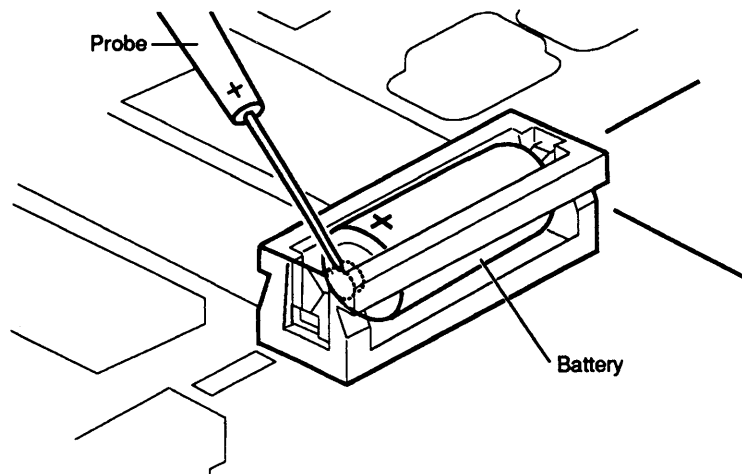

Figure 4-1 Verifying Battery Voltage
3. Touch and hold the **positive probe** of the voltmeter to the **positive side** of the battery (**Figure 4-1**).